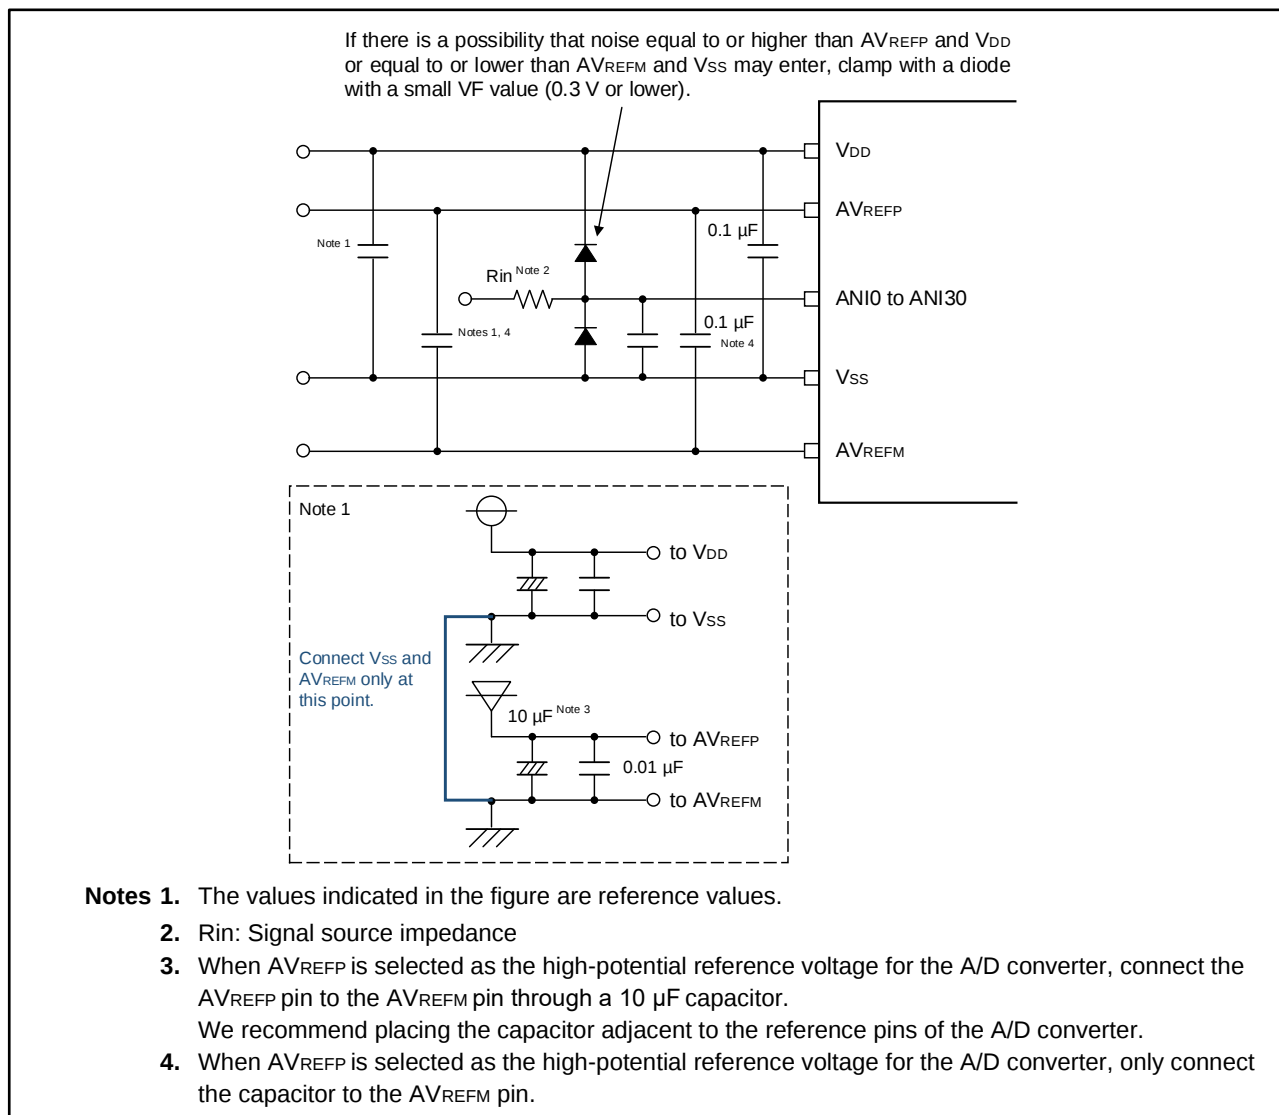

Figure 12: Sample Protection Circuit for Analog Inputs
- To prevent the analog input pins (ANI0 to ANI30) from being destroyed by abnormal voltage such as excessive surge, a capacitor should be inserted between  $V_{DD}$  and  $V_{SS}$  and between  $AV_{REFP}$  and  $AV_{REFM}$ , and a protection circuit should be connected to protect the analog input pins (ANIx) as shown in Figure 12.
|      |              | P.16        | The circuit example in Figure 12 has been modified.                                                             |